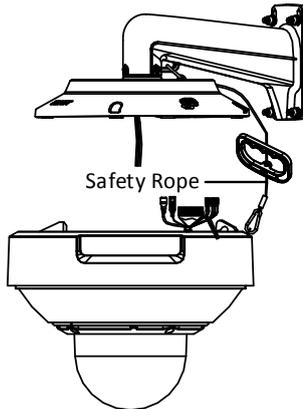

Figure 1-14 Install the Safety Rope
6. After fixing the head cover, hook the two ends of the safety rope to the bracket and the camera respectively, as shown in Figure 1-14.